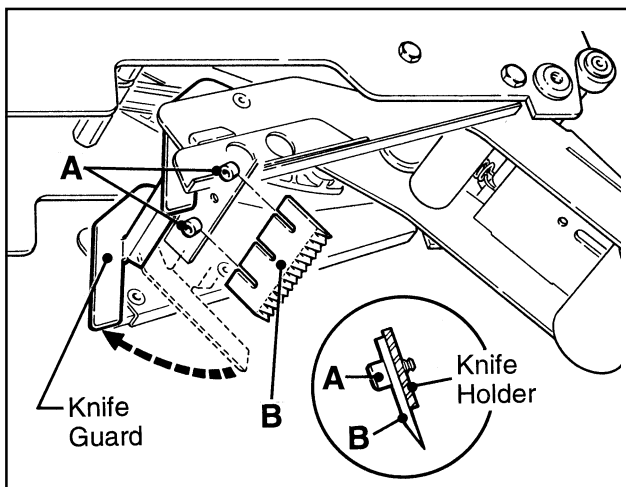

Figure 4-1—Blade Replacement
1. Loosen, but do not remove, the blade screws (**A**) as shown in Figure 4-1. Remove and discard old blade.